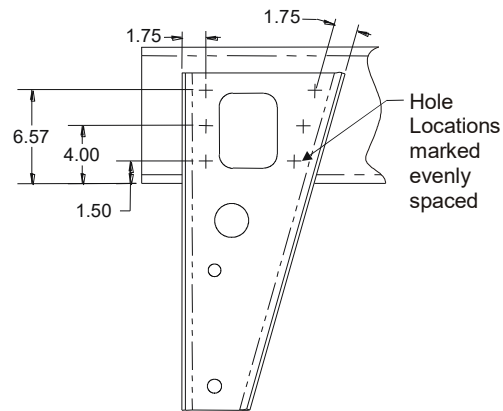

Figure 11
4. Layout the desired bolt hole pattern near the outside edge of the hanger. Center punch all marks. (See Figure 11)